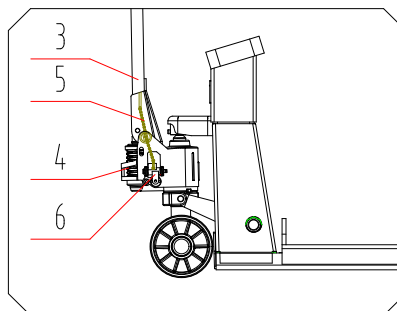
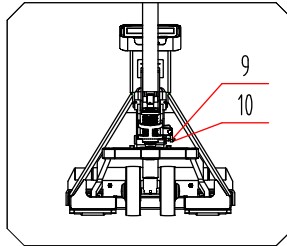

Figure 2
Figure 5
2.1.3 Turn the pin shaft 2 so that the axis of the large hole in the middle of the pin shaft is vertical, and pass the chain 5 on the handle through the hole in the middle of the pin shaft 2. See Fig 2.
2.1.4 Hang the screw nut at the end of chain 5 into the groove of lever plate 6. See Fig 2 and Fig 5.
2.1.8 The screw 9 in Fig. 5 is used to adjust the vehicle condition. When the truck body rises and then immediately descends, turn the screw 9 a little anticlockwise and try the truck again until it rises normally. If the truck body cannot be lowered after lifting; turn the screw 9 clockwise a little and try again until it can be lowered normally. The outer hexagon nut 10 at the screw 9 plays a locking role. It should be loosened before adjustment and locked after adjustment.